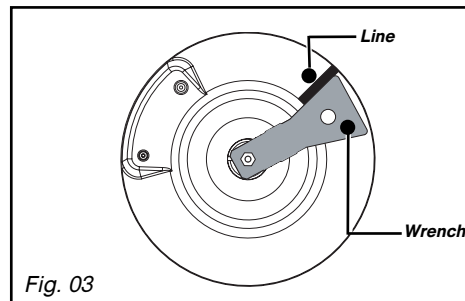

Fig. 03
In an existing system, a soft pipe fitted with clamps (compliant with the XP D 36-110 standard) whose service life is five years may be used. It is necessary in this case to use an adaptor without forgetting to fit a sealing washer between the adaptor and the hob's elbow. (Fig. 03).
- Turn the wrench clockwise until the line appears on the other side (Fig. 03).